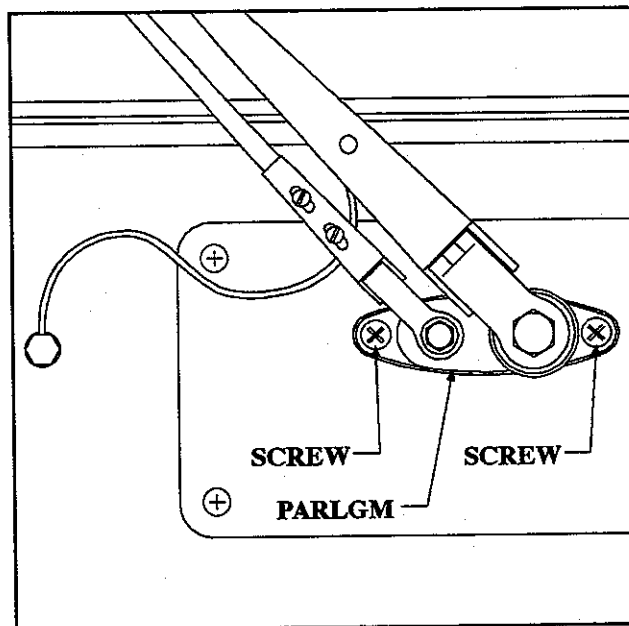

Figure 1—Front Access Panel
See Figure 1—Front Access Panel
1. Remove the two screws from the first. (See Figure 1—Front Access Panel.)
3. Install two screws to the parlgm. (See Figure 1—Front Panel Access.)